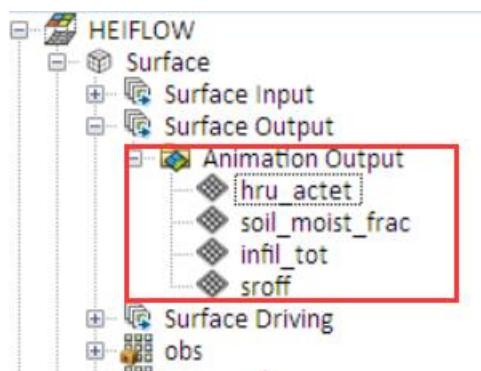

Figure 8-13. Simulated variables contained in the animation output of surface water.
- 1) In the Project Explorer, right click on the “Animation Output” item, and select Load Variables. Four variables are then loaded as shown in Figure 8-13.